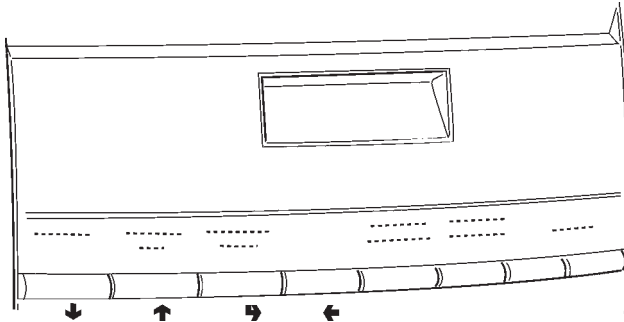

Fig. 20
- External direct selection push-button panel which takes on the following functions when in "Filler" and "Technician" mode (see Fig. 20):